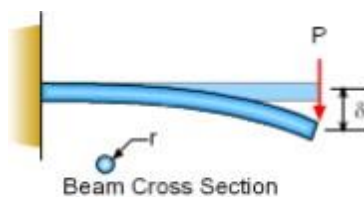

Fig 1. Cantilever beam
• Fig. 1. Tensile testing machine.